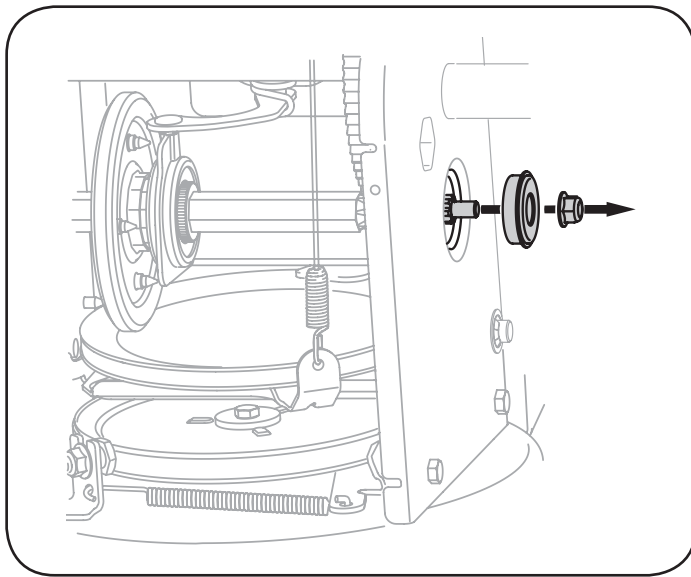

Figure 31
6. Carefully remove the hex nut and washer which secures the hex shaft to the snow thrower frame and lightly tap the shaft's end to dislodge the ball bearing from the right side of the frame. See Figure 31.